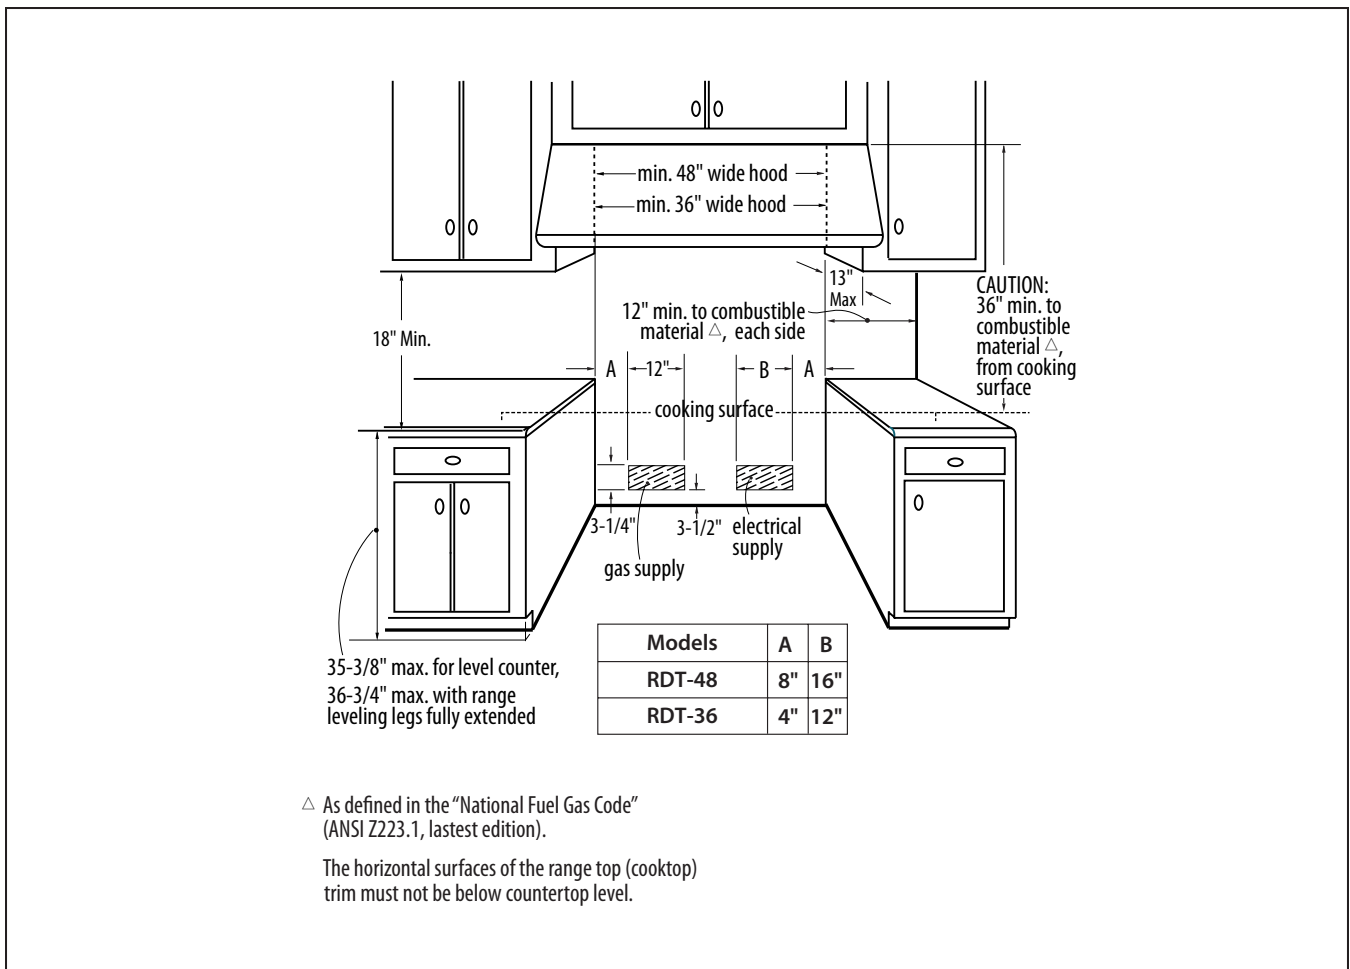
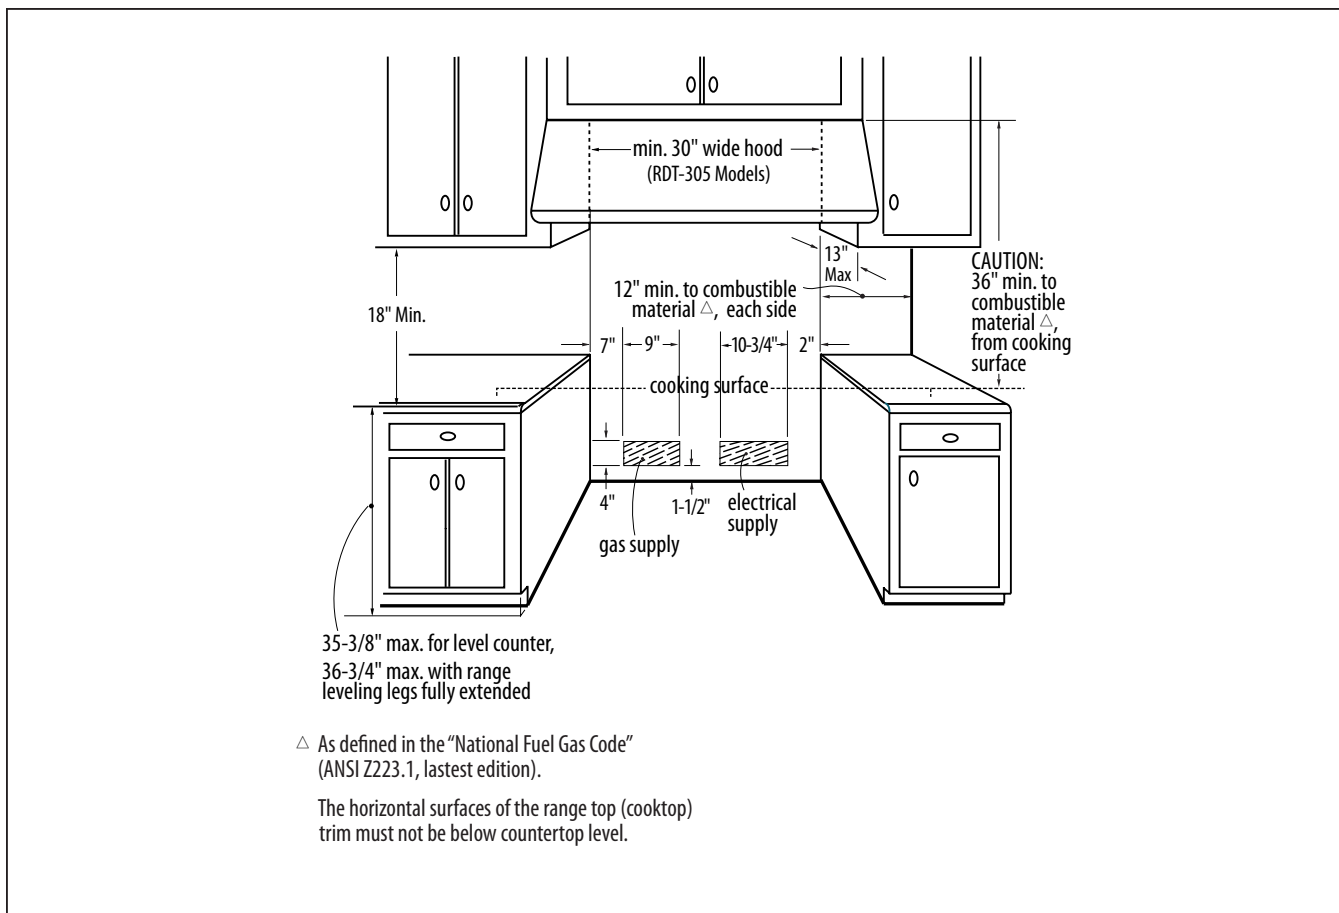
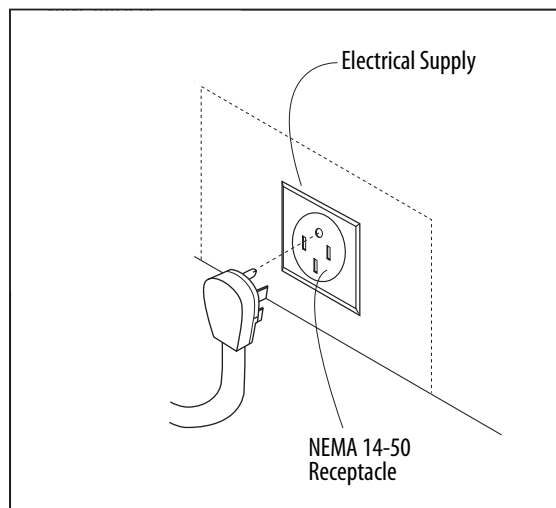

Fig. 10 RDT-36/48 Models Only
Fig. 11 RDT-305 Models Only
Fig. 15
1. The range is a free standing unit. If the unit is to be placed adjacent to cabinets, the clearances shown in fig. 10 (RDT-36 & 48) & fig. 11 (RDT-305) are required. The same clearances apply to island installations.
3. The gas and electrical supply should be within the zones shown figures 10 & 11.
Always disconnect electric supply cord from the wall outlet or service disconnect before servicing this appliance. Observe all governing codes and ordinances when grounding, in absence of which, observe National Electrical Code ANSI / NFPA No. 70. The electrical supply must be a 120/240 volt, 3 wire (plus ground) 60 Hz single phase, 50 AMP circuit. The power receptacle must be a NEMA 14-50 device to accept the four prong plug supplied with the unit (Fig. 15). The receptacle should be located within the area shown in fig. 10, page 14.
The electrical supply must be a 120/240 volt, 3 wire (plus ground), 60 Hz, 30 AMP circuit. The power receptacle must be a NEMA 14-50 device to accept the four prong plug supplied with the unit. The receptacle should be located within the area shown in fig. 11, page 15.